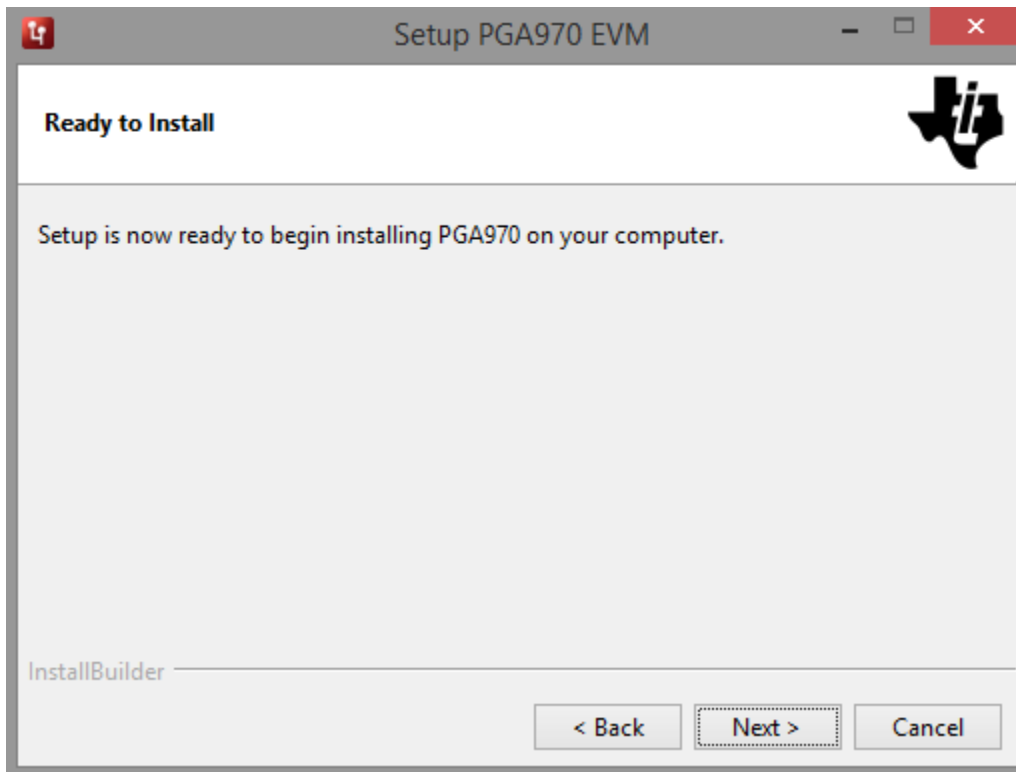

Figure 1-7. Start Installation
4. A screen as shown in Figure 1-7 appears. Click Next» to begin the installation.